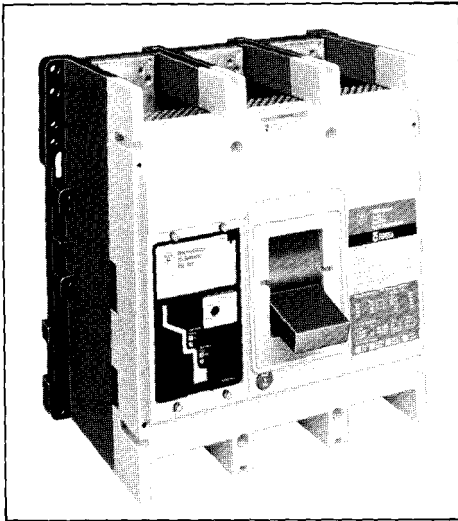

Figure 1-1. R-Frame Series C Circuit Breaker with RS Seltronic™ Trip Unit
The R-frame Series C circuit breaker with interchangeable electronic trip units (Figure 1-1) is available in two basic models: the domestic (D) and the world (W) models. In many applications, the R-frame circuit breaker is designed to physically and electrically replace the SPB Systems Pow-R-circuit breaker.